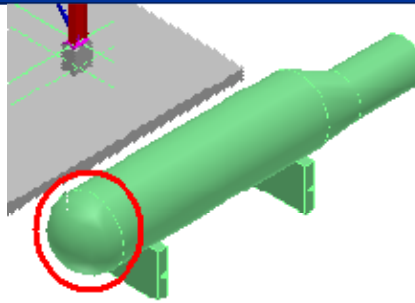

Figure 28: The First Cap Highlighted
26. Using **Connect** relationship as mentioned in step 16, place it at the west end of the equipment object as highlighted in Figure 28.